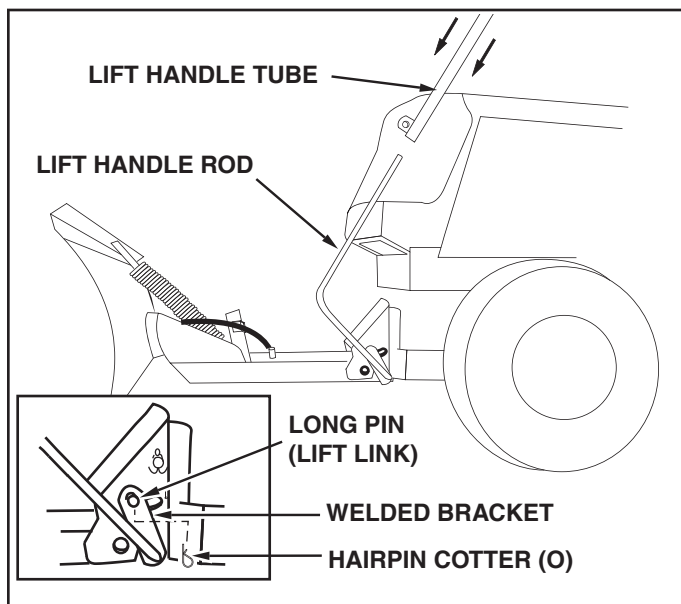

FIGURE 19 (Left Hand Side View)
STEP 19: (SEE FIGURE 19)
- Remove the hairpin cotter which fastens the lift handle rod to the lift link pin. See figure 19, page 10.